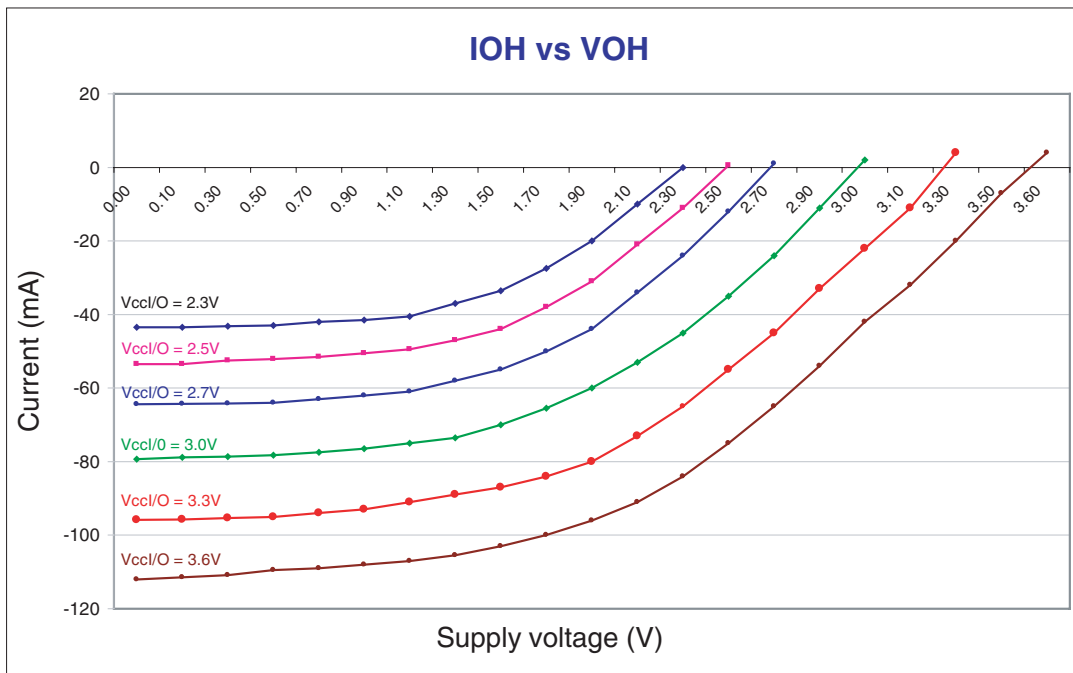

Figure 17: IOH vs. VOH
**NOTE:** The data provided in **Table 14** are JEDEC and PCI Specifications. QuickLogic® devices either meet or exceed these requirements. For data specific to QuickLogic I/Os, see preceding **Table 1** through **Table 13** and **Figure 1** through **Figure 17**.